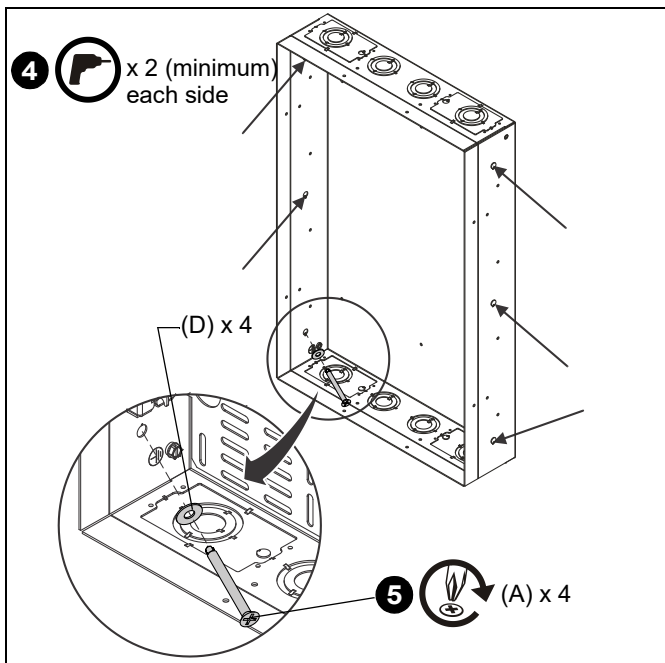

Figure 8
- Install PAC527L to studs using four 1/4 x 2-1/2" Phillips flat head screws (A) and four 3/8" flat washers (D) through PAC527L and pilot holes. (See Figure 8)